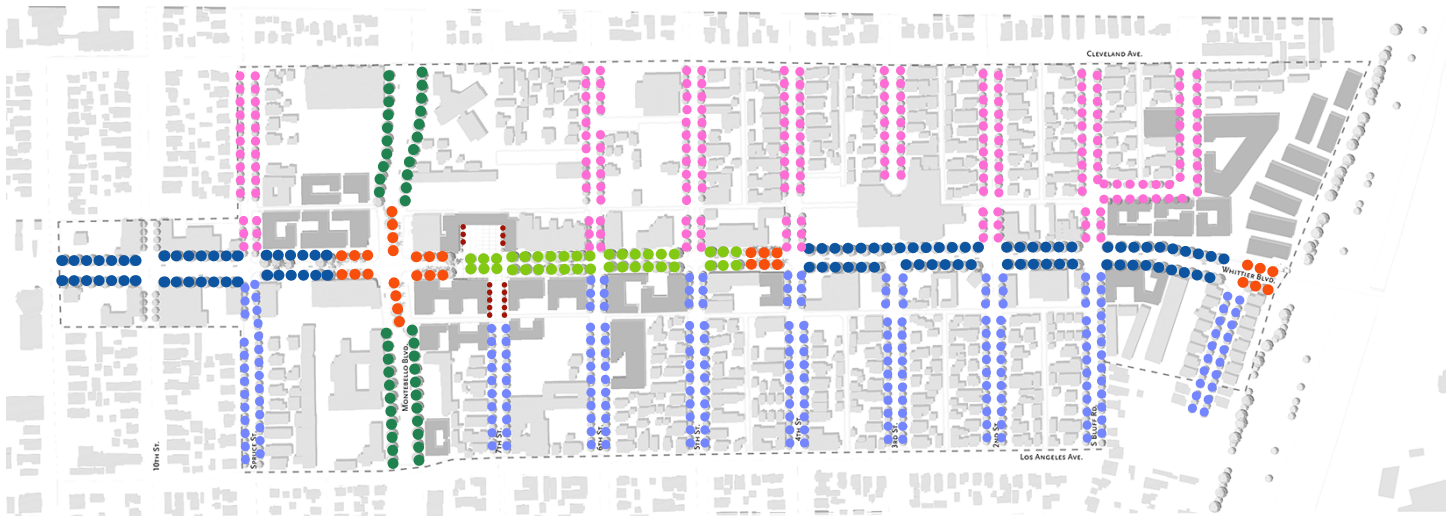

Figure D.10. Street Tree Master Plan.
- Figure D.5 shows the proposed street and block network applied to the entire Plan Area. Additionally, Figure D.10 shows specific landscape characteristics for each street, differentiating it from other streets within the Plan Area, and contributing to the richness of the Downtown area's sense of place.
The Street Tree Master Plan (see Figure D.10) locates specific tree species amongst the public realm's street network, open spaces, and greenways. Tree species are chosen for each type of thoroughfare and open spaces to support its unique aesthetic character, spatial quality, and environmental value. Tree selection considerations included the tree's shape, color, seasonal change, scent, size at maturity, drought tolerance, and resilience.
The street tree species shown in Figure D.10 (Street Tree Master Plan) are conceptual and may be adjusted subject to Public Works Director and/or Planning and Community Development Director approval.